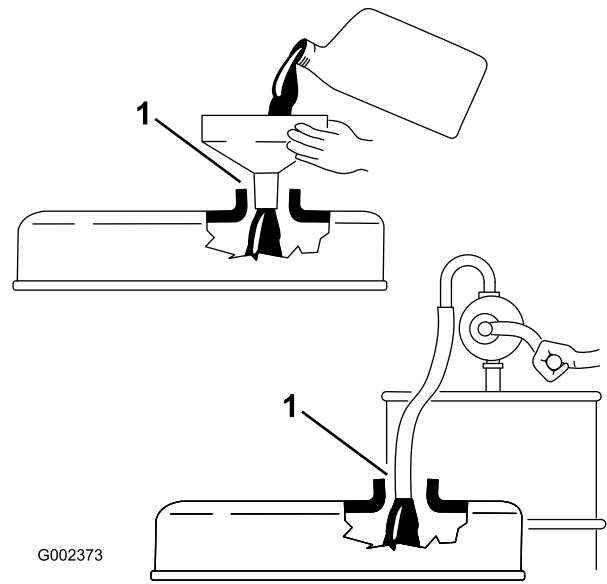

Figure 44
3. If the oil level is low, remove the filler cap (Figure 44) and add enough oil to raise the level-of-the-oil to the Full mark on the dipstick.
**Important:** When adding engine oil or filling oil, there must be clearance between the oil fill device and the oil fill hole in the valve cover as shown in Figure 44. This clearance is necessary to permit venting when filling, which prevents oil from overrunning into the breather.